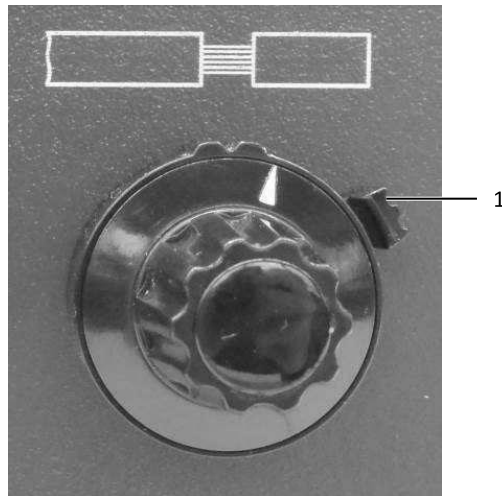

Fig. 5: Brake at the setting button
- Release the brake (fig. 5, item 1) of the setting button by turning it counter-clockwise.